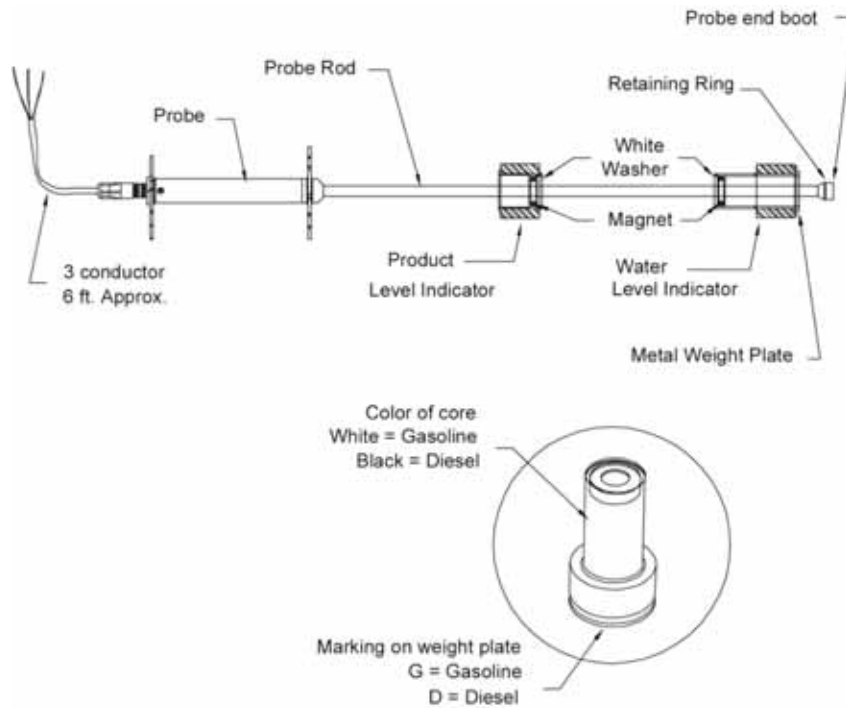

Figure 14: Probe Component Locator
Figure 14 on page 34 shows how the probe components work together.
1. Review Figure 14 on page 34.